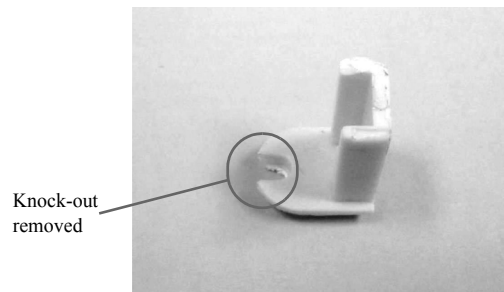

Figure 6 - Slot Baffle Knock-out
4. Cable can be surface mounted or fished through the wall on which the antenna is mounted. If surface mounted, the knock-out on the slot baffle must be removed prior to running antenna wire (see Figure 6).